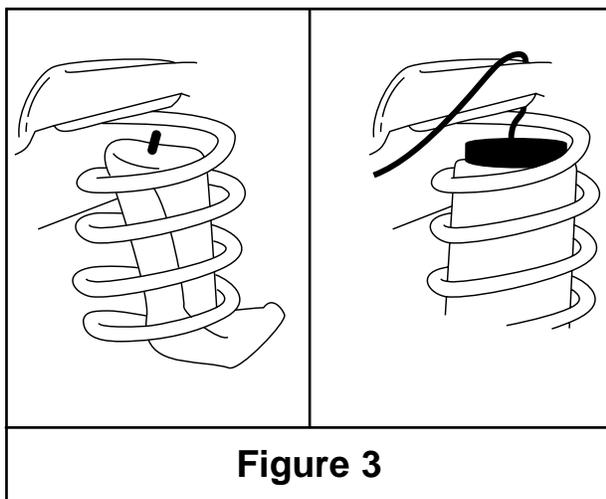

Figure 3
- A. Insert flattened air cylinder into lowest coil opening with stem towards the top (Figure 3). Push the cylinder up within the coil by hand or with a BLUNT instrument such as a spoon-type tire iron.
- C. Push cylinder to the bottom of the coil spring. Insert the 1/2" thick protector on top of the air cylinder through coil opening and center over the barbed stem (Figure 3).
Stability translates into safety and should be the priority, meaning the driver may need to sacrifice a perfectly level and comfortable ride. Stability issues include roll control, bounce, dive during braking and sponginess (fig. 3). Tuning out these problems usually requires an increase in pressure.